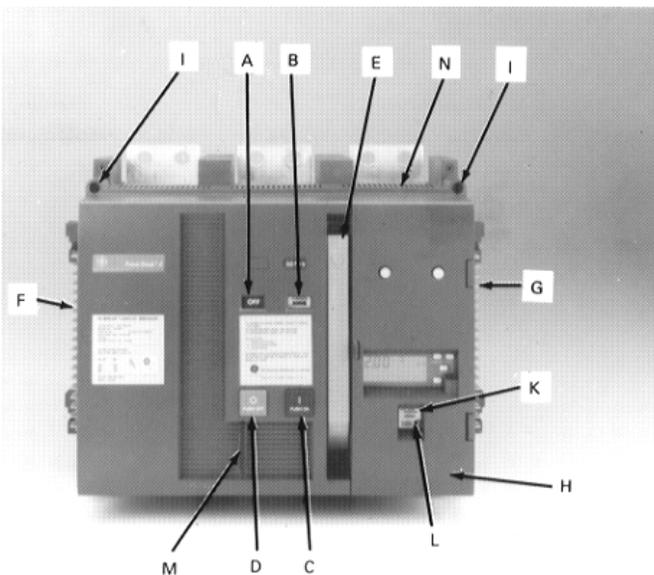
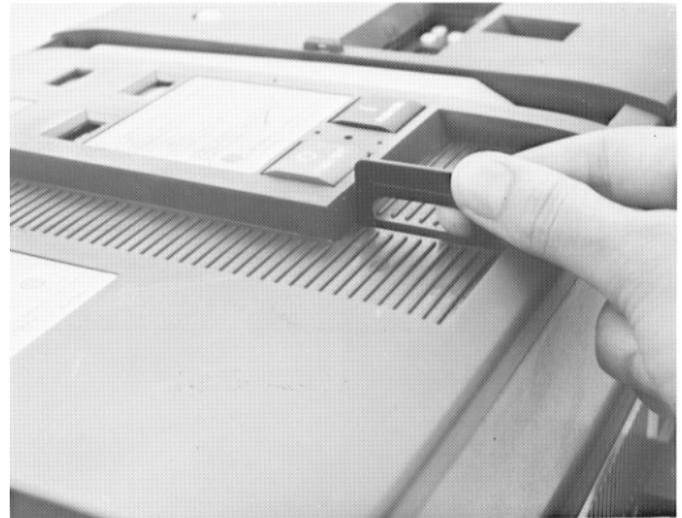

Figure 6. Front of the switch, showing the locations of standard features.
Figure 8. Side view of the switch, showing the padlock tab extended.
Power Break II switches are equipped with the following standard features. The letters are keyed to the switch photographs in Figures 6 and 7.
2. Grasp the padlock tab (see Figure 6) and pull it out until it is fully extended, as illustrated in Figure 8. Note that if the switch contacts are closed, the padlock tab will not extend.